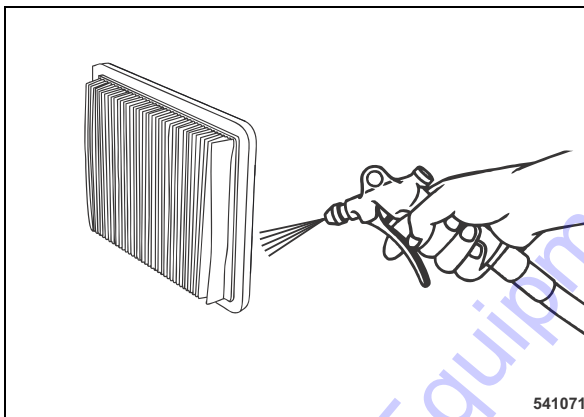

Fig. 82
- If soiled with dry fine dust blow the air filter out from the clean air side (Fig. 82).